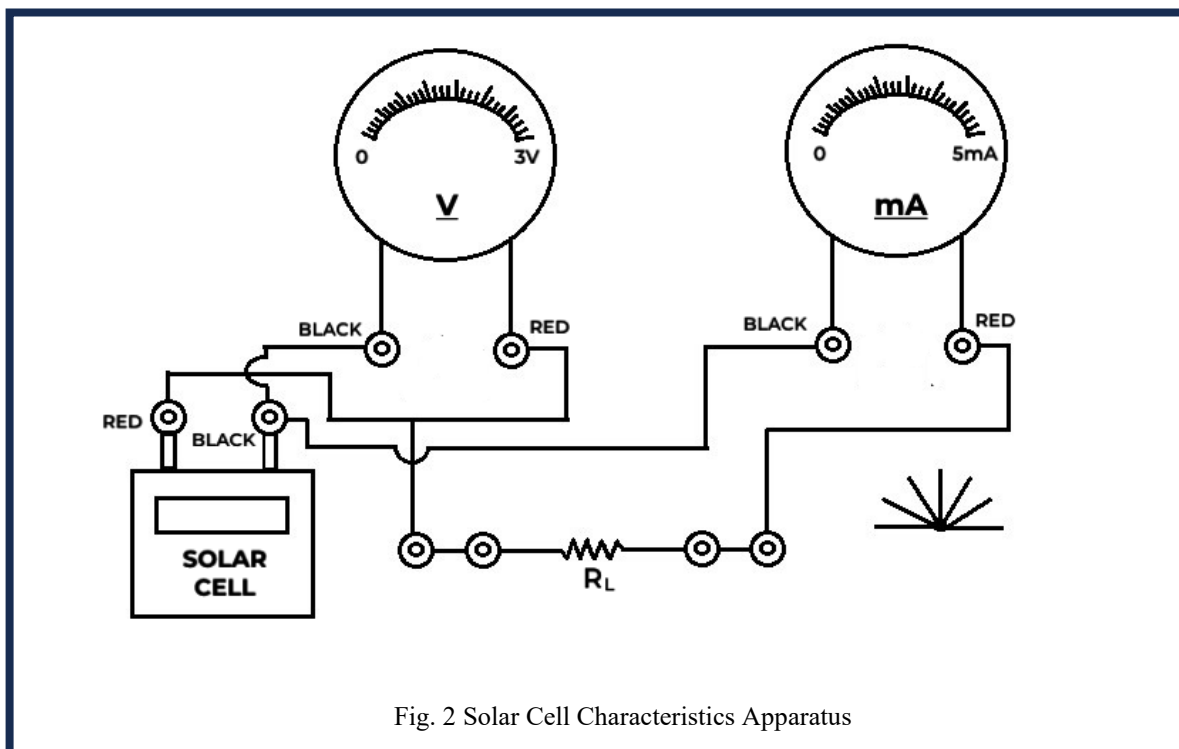

Fig. 2 Solar Cell Characteristics Apparatus
1. Place the solar cell and the light source (100-watt lamp) opposite to each other on a wooden plank. Connect the circuit as shown by dotted lines (Fig. 2) through patch chords.
S. No.	Voltage	Current	Load Resistance (RL)
4. Make the connections to the photo-resistor and mutimeter as shown in fig.2